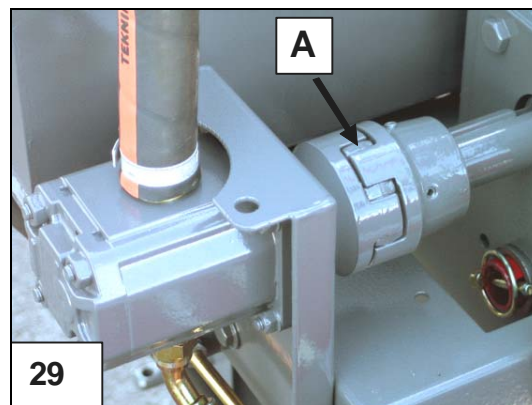

Fig. 29. Clutch for hydraulic pump
7.7 Clutch for hydraulic pump, Fig. 29